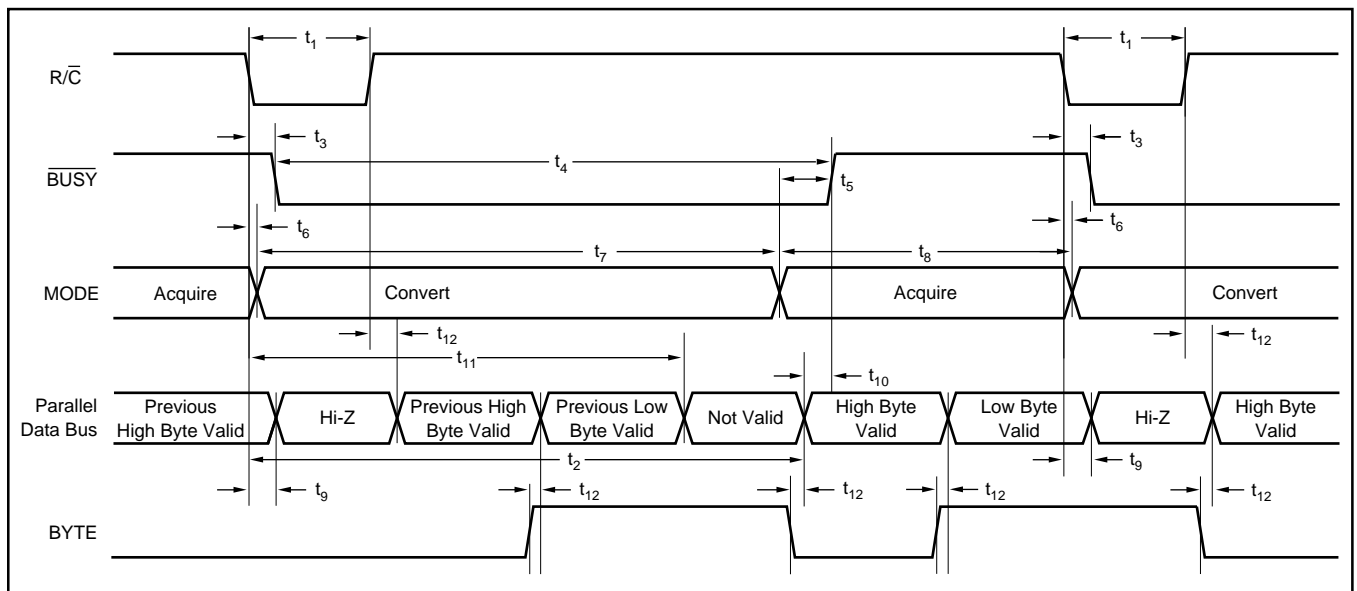

FIGURE 2. Conversion Timing with Parallel Output ($\overline{\text{CS}}$ and DATACLK tied LOW, $\overline{\text{EXT/INT}}$ tied HIGH).
The ADS7806 will begin tracking the input signal at the end of the conversion. Allowing 25µs between convert commands assures accurate acquisition of a new signal. Refer to Tables II and III for a summary of \overline{CS} , R/\overline{C} , and $BUSY$ states, and Figures 2 through 6 for timing diagrams.
NOTE: (1) See Figures 2 and 3 for constraints on data valid from conversion 'n - 1'.
After conversion 'n' is completed and the output registers have been updated, $\overline{\text{BUSY}}$ (pin 24) will go HIGH. Valid data from conversion 'n' will be available on D7-D0 (pins 9-13 and 15-17). $\overline{\text{BUSY}}$ going high can be used to latch the data. Refer to Table V and Figures 2 and 3 for timing constraints.
After conversion 'n' has been initiated, valid data from conversion 'n - 1' can be read and will be valid up to $12\mu\text{s}$ after the start of conversion 'n'. Do not attempt to read data beyond $12\mu\text{s}$ after the start of conversion 'n' until $\overline{\text{BUSY}}$ (pin 24) goes HIGH; this may result in reading invalid data. Refer to Table V and Figures 2 and 3 for timing constraints.